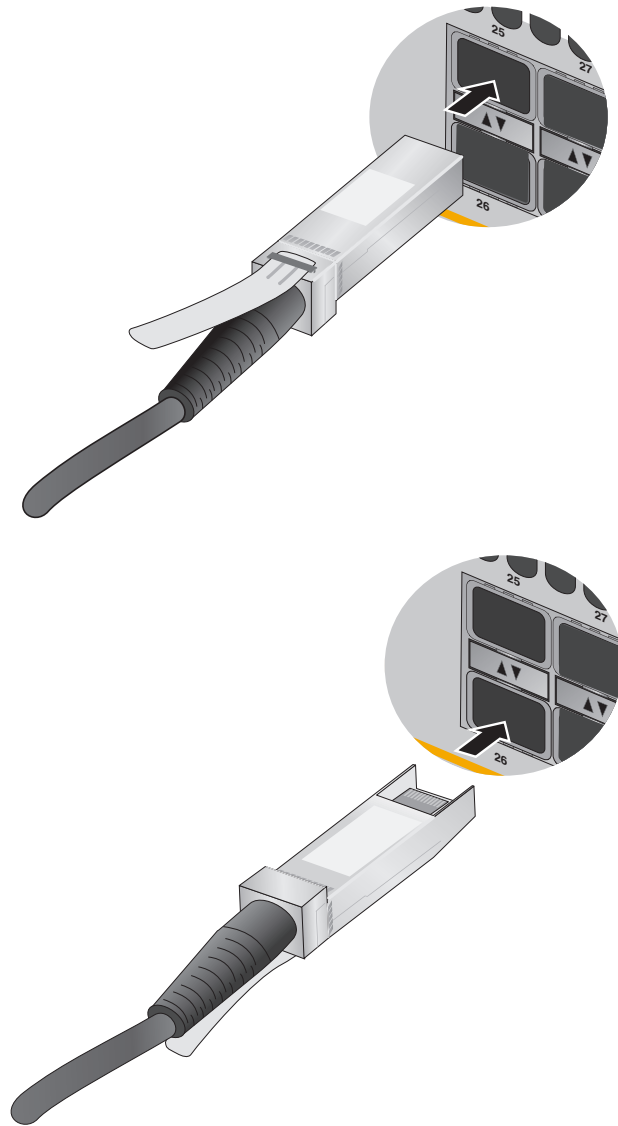

Figure 87. Installing SP10TW Cables
3. To install the transceiver in a port in the top row, position the transceiver with the Allied Telesis label facing up. To install the transceiver in a port in the bottom row, position the transceiver with the label facing down. Refer to Figure 87.